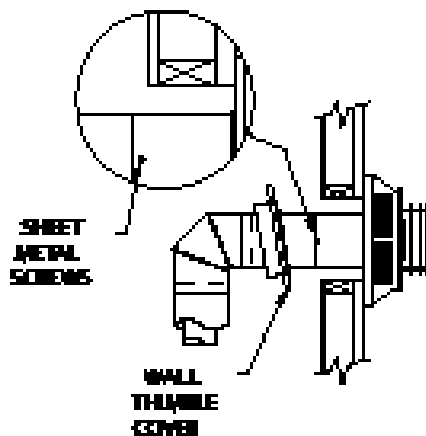

Figure 8
- (1) The four wood screws provided should be replaced with appropriate
- (2) For buildings with vinyl siding or other surfaces, the Vinyl Siding Standoff or Counter Flashing is available.
- Step 5.** Before connecting your horizontal Pipe Sections to the Horizontal Termination Cap, slide the Wall Thimble Cover over the Pipe Section nearest the interior side of wall (Fig. 8).
inserting the Pipe Section into the cap assembly. It is important that the Pipe Section extends into the back of the Termination Cap with a minimum overlap of 1-1/4 inches. Use the two sheet metal screws provided to secure the Pipe Section to the back of the Termination Cap. The Wall Thimble Cover will cover the screw heads (Fig. 8).